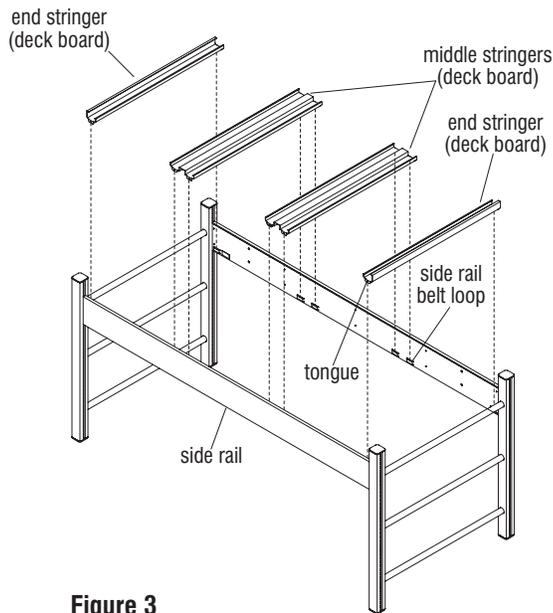

Figure 3
Note: Board deck bed frame installation is the same for single, loft or bunk beds. Figures 3 & 4 illustrate single bed for simplicity. Page 3 illustrates bunk bed components to aid in assembly. See page 6 instructions for Hang on Megasurface Loft Bed assembly.
Caution: Middle stringers for Board Deck Frames are different than middle stringers for Spring Deck Frames. Assure that your middle stringers match those of Figure 3.
1. Position end and middle stringers over installed side rails as illustrated, and insert the tongues of the stringers into the "belt loops" in the side rails. Tap stringers down to secure the stringers in place (Figure 3).